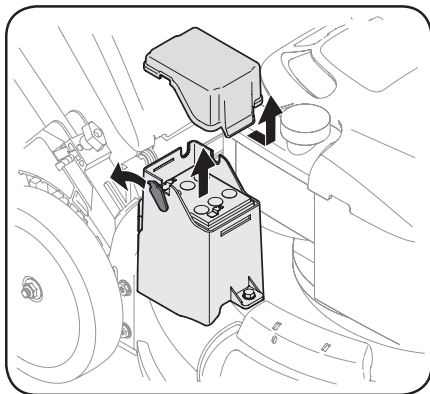

Figure 4-10
2. Remove positive and negative leads from battery, and pull up on battery to remove. See Figure 4-10.